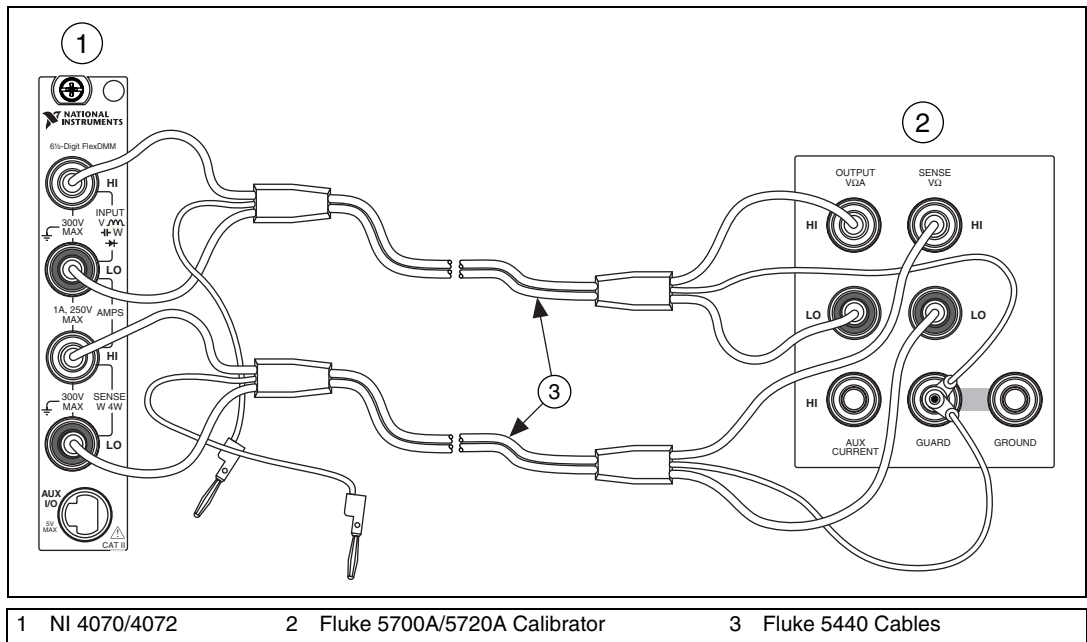

Figure 4. Cable Connections for 4-Wire Resistance
2. Fasten the connectors on one end of each Fluke 5440 cable to the appropriate banana plug connectors on the NI 4070/4072, and fasten the connectors on the other end of each Fluke 5440 cable to the appropriate calibrator binding posts. Figure 4 shows the Fluke 5440 cable connections. Table 7 lists the cable connections.